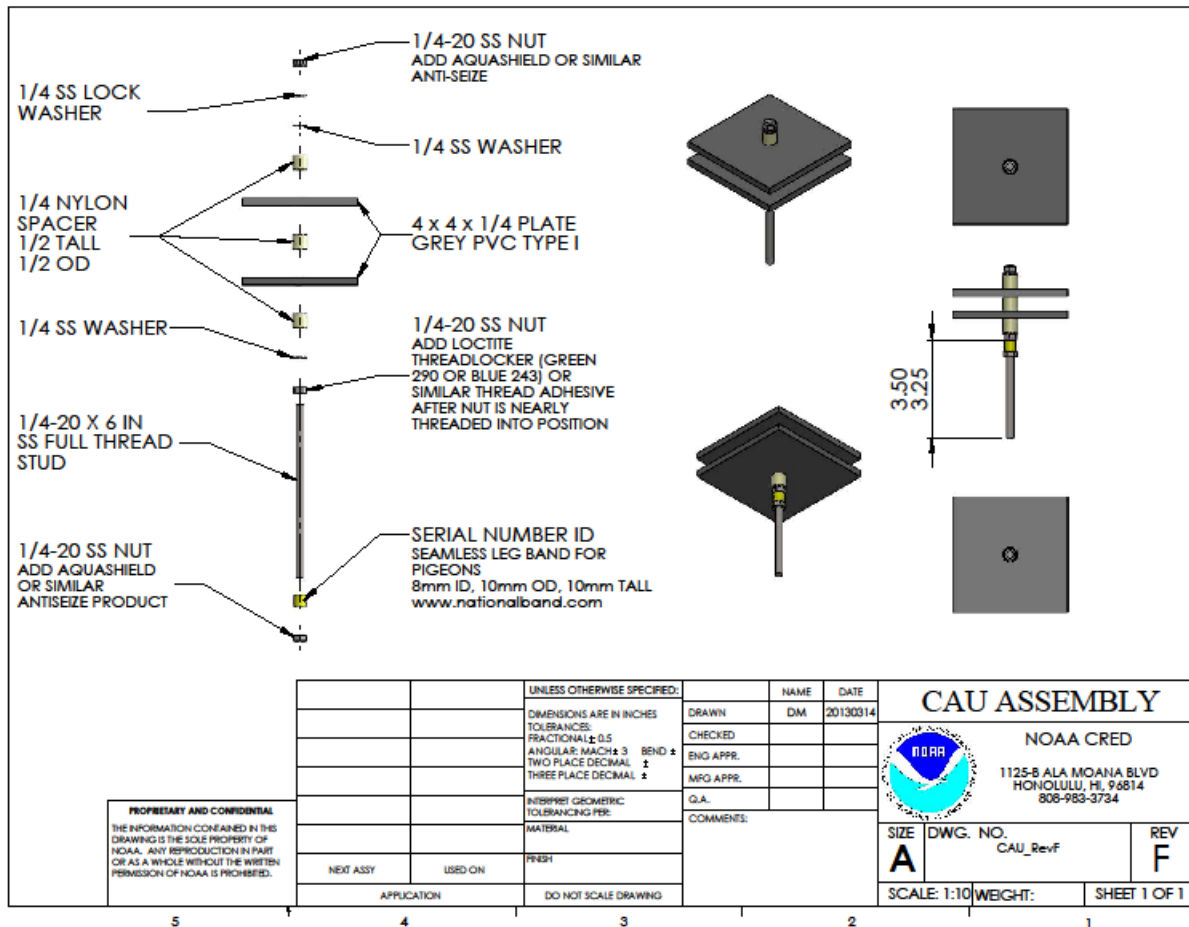

Figure 1: CAU assembly.
**Assembly**—CAUs are deployed in groups of 5 units, as outlined in **Figure 1/NCRMP Overview\_Instrumentation and Water Sampling\_CRED SOP\_2015.doc**. The CAU assembly diagram (Figure 1) outlines the supplies needed for 1 CAU, and provides views of the assembled unit.
**Deployment of CAUs and BMUs at 15 m survey site**—A team of 2-3 SCUBA divers install 5 CAUs (and 5 BMUs\*\*\*) in 30-40 min. The 5 CAUs, and tools needed for their deployment, should be carried in a dive bag to avoid loss of gear and tools while underwater. CAUs are deployed at 5 m spacing, along the perimeter of the 15 m survey site (see Figure 1/NCRMP Overview\_Instrumentation and Water Sampling\_CRED SOP\_2015.doc). The order of deployment for CAUs **ONLY** is:
Figure 1: CAU with BMU deployed. CAU = instrument with 2 grey PVC plates; BMU = white coral block mounted on PVC baseplate with blue serial number tag attached. Bottom wire rope clip secures the BMU to the stainless steel stake onto the benthos. Top wire rope clip secures the CAU to the stainless steel stake, with the plates squared up on-top of each other and situated parallel with the ocean surface.